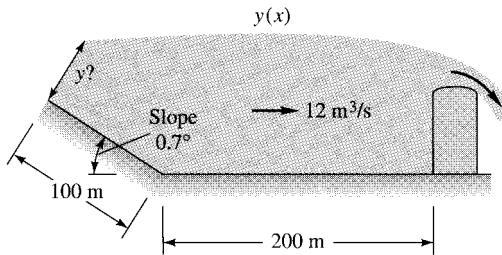

Fig. P10.128
- 10.128** A rectangular channel 4 m wide is blocked by a broadcrested weir 2 m high, as in Fig. P10.128. The channel is horizontal for 200 m upstream and then slopes at  $0.7^\circ$  as shown. The flow rate is  $12 \text{ m}^3/\text{s}$ , and  $n = 0.03$ . Compute the water depth  $y$  at 300 m upstream from gradually varied theory.